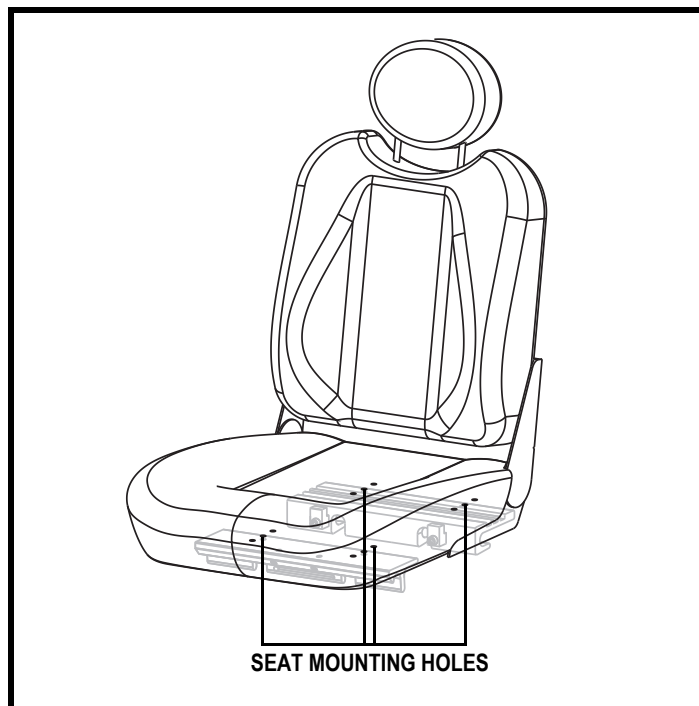

Figure 17. Seat Position Adjustment
6. Reposition the extrusions on a different set of mounting holes. You must move both extrusions the same number of holes either forward or rearwards. **See figure 17.**